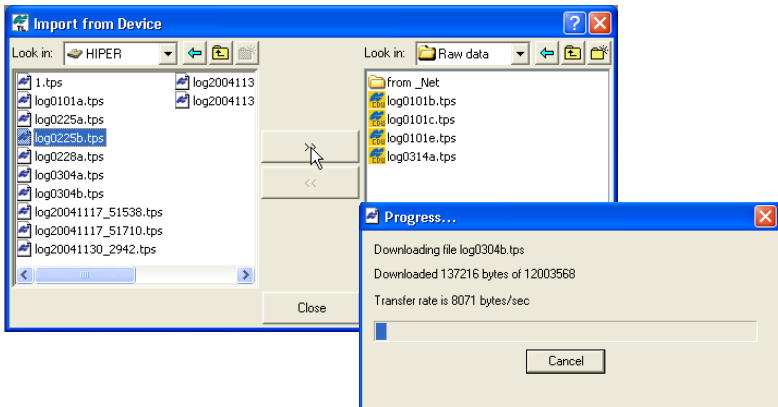

Figure 5-8. Select the Raw Data File to Import and View Import Progress
- In the right panel of the *Import From Device* window, navigate to and select, or create, a folder to save the files (Figure 5-8).
- To view the collected raw file, double click (or click *Select* in the pop-up menu) the desired receiver. To import the file(s) from the receiver to the computer and to save in the selected folder, highlight the desired file(s) and click the double arrows (Figure 5-8).
- The import in progress displays (Figure 5-8).